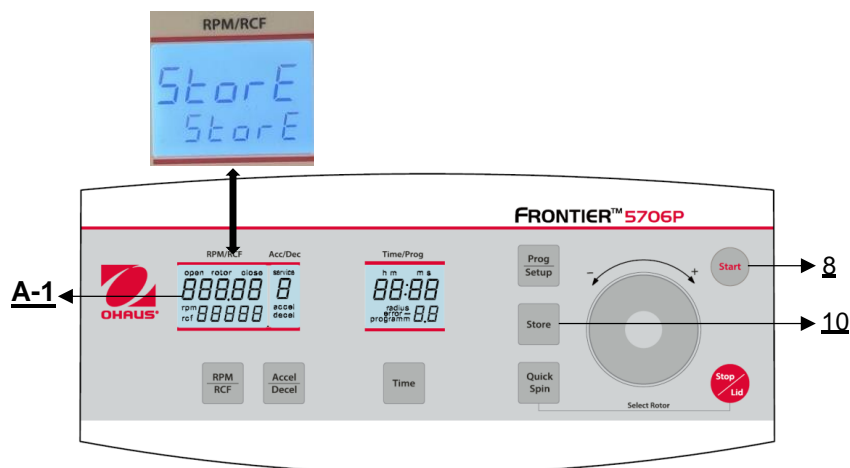

Figure 29
All changed settings must be confirmed by the key **“Start”** (8) or **“Store”** (10). The word **“Store”** appears in the display **“RPM | RCF”** (A-1) – Only then the pre-selections are valid (see Figure 29). After you have stored the settings, you can change to normal program mode again by switching off the centrifuge for a short while.